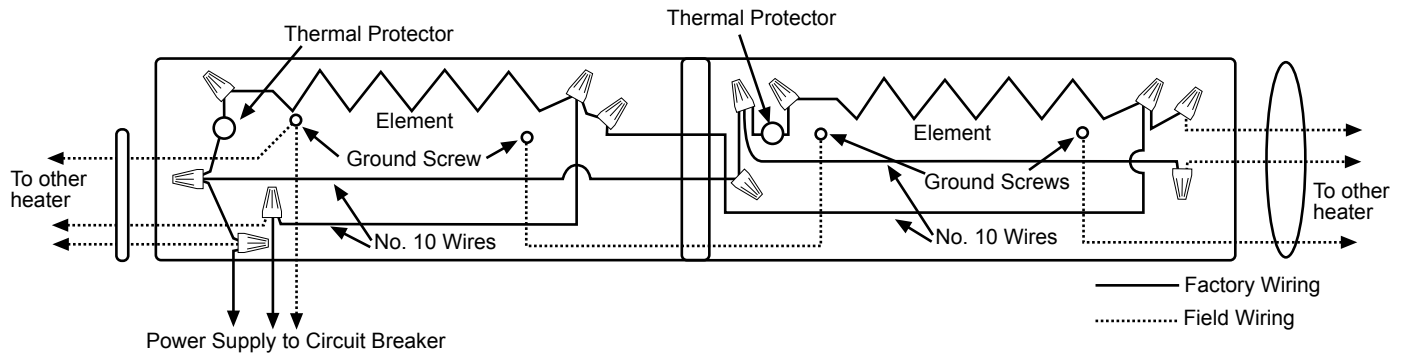

Fig. 7
9. Following the wiring diagram secured to the heater, make the electrical connections. Refer to Fig. 7 to connect the other heaters in parallel. Grounding of the other heaters is accomplished by connecting a jumper wire (not supplied) between the two adjacent heaters.
**IMPORTANT NOTE:** These heaters are provided with a built-in safety limit (Thermal Protector— see Fig. 7) to automatically turn off the heater if it is blocked or otherwise overheats due to an abnormal condition. The heaters should not be cycling off on this safety control during normal use. If this is occurring, check heater installation to assure it has adequate clearances and the free airflow around heater is not restricted. If heater continues to cycle on this safety control, discontinue using until it can be inspected and/or repaired by a qualified electrician.